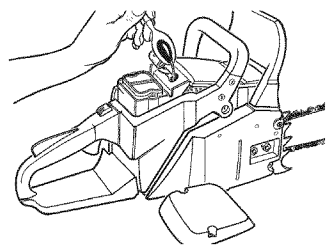

Fig. 55
4. Pour 1 teaspoon of clean 2-cycle oil into the combustion chamber (Fig. 55). Pull the starter rope slowly several times to coat the internal components.